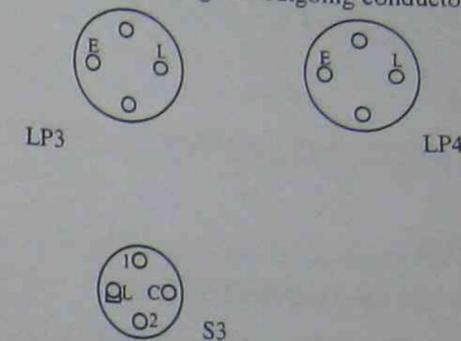

Figure 16 Wiring diagram for lighting point 2 3 and 4 and switch 3
5. Complete the wiring diagram of Figure 16 by drawing the connections required at lighting points 3 and 4 and switch 3. Also show the incoming and outgoing conductors.